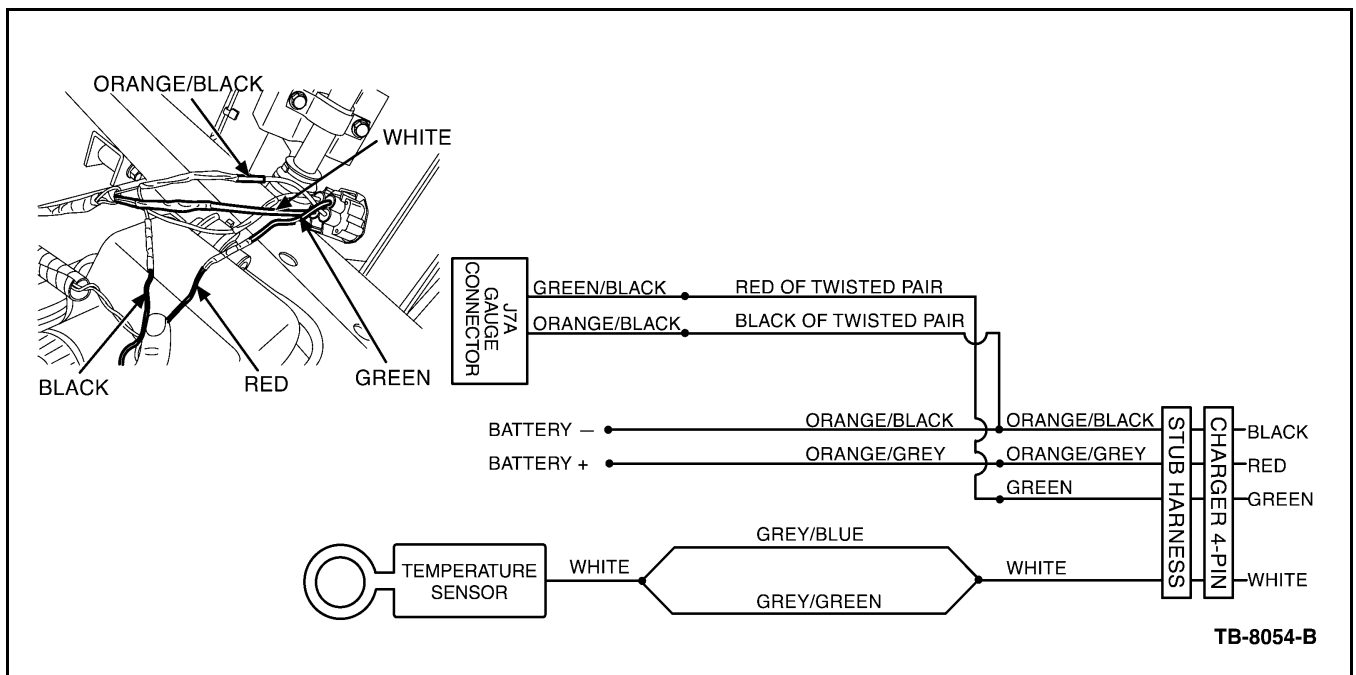

Figure 13 - Article 04-24-9
3. Strip back the insulation 1/8" (3 mm) from the ends of the grey/blue and grey/green wires that were terminated by cutting off the 9-pin charger connector. Twist both wires together, slide over a 2" (5 cm) piece of heat shrink, and crimp into the supplied butt splice on the white wire from the stub harness (Figure 13). This is the temperature sensor circuit wire.
- c. Strip the black wire of the twisted pair back 1/8" (3 mm). Twist the stripped wire from the twisted pair together with the orange/black wire from the harness end where the 9-pin was terminated. Slide a piece of 2" (5 cm) heat shrink over the orange/black wire on the stub harness side. Butt splice the wires together using the butt splice supplied on the orange/black wire from the supplied stub harness (Figure 13). This is the 72V return wire.
- d. Strip back the red wire of the twisted pair, slide a 2" (5 cm) piece of heat shrink over the wire, and crimp the red wire onto the butt splice that is supplied on the green wire of the stub harness (Figure 13). This is the gauge interlock circuit wire.